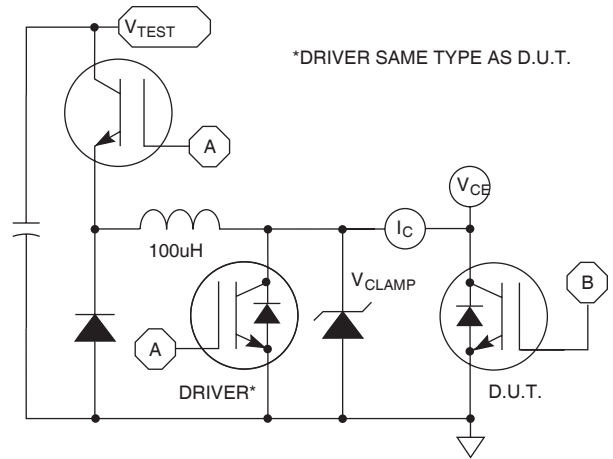

Figure 24,  $E_{ON1}$  Test Circuit
- ① Repetitive Rating: Pulse width limited by maximum junction temperature.
- ② For Combi devices,  $I_{ces}$  includes both IGBT and FRED leakages
- ③ See MIL-STD-750 Method 3471.
- ④  $E_{on1}$  is the clamped inductive turn-on-energy of the IGBT only, without the effect of a commutating diode reverse recovery current adding to the IGBT turn-on loss. (See Figure 24.)